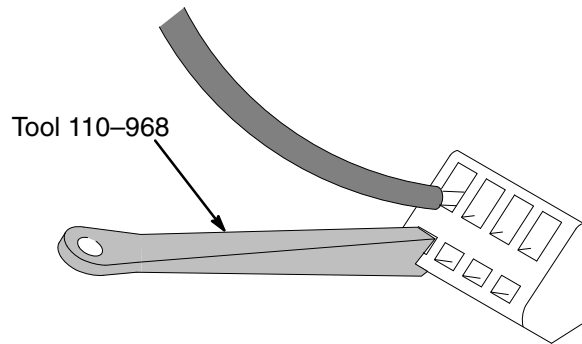

Fig. 9
4. To remove wires, use the accessory tool, P/N 110–968 or a 3/16 in. wide screwdriver. Insert the tool into the slot below each wire on the terminal block, push the tool away from the wire and pull out the wire. See Fig. 9.